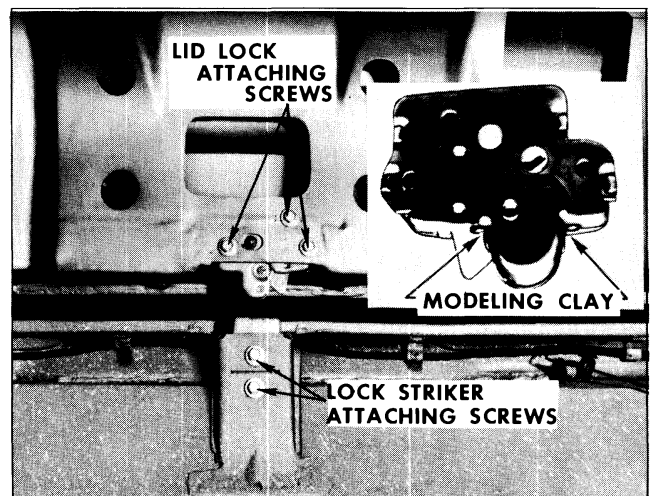

Fig. 14-13 Lid Lock and Striker
2. Remove lid lock attaching screws (Fig. 14-13) and remove rear compartment lid lock.
2. Remove striker attaching screws (Fig. 14-13) and remove striker.
- a. Insert a small quantity of modeling clay on frame of lock on both sides of lock bolt (Fig. 14-13). Close lid with moderate force.